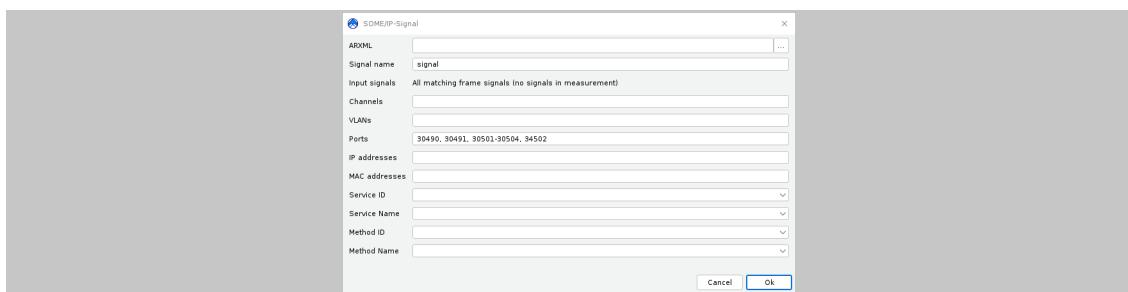

Figure 17: The SOME/IP signals window
2. The frames can be filtered by channel numbers. If the channels field is left empty, all channels are considered. Otherwise a comma-separated list of channels and channel areas is expected (see Figure 17).
3. The frames can be filtered by VLANs. If the channels field is left empty, all channels are considered. Otherwise a comma-separated list of channels and channel areas is expected (see Figure 17).
4. The frames can be filtered by TCP/UDP ports. If the ports field is left empty, all ports are considered. Otherwise a comma-separated list of ports and port areas is expected (see Figure 17). All ports and addresses are considered for source AND destination.
3. In the window that opens, provide the name and filter criteria for the SOME/IP signal. Depending on the type of signal some parameters from figure 17 might not occur.